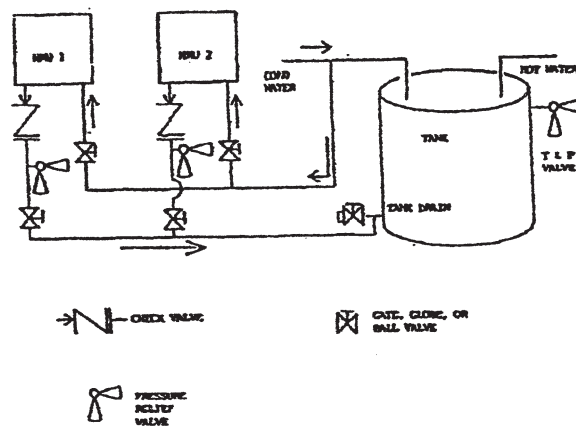

Figure W-103
**MULTIPLE HRU'S CONNECTED TO STORAGE TANK:** Can be accomplished by sizing the supply and return water lines for the combined water flow of all HRU's and connecting the HRU's in parallel to the supply/return lines. A check valve should be installed in the "water out" stub of each HRU, upstream of the connection to the return line, to prevent short circuiting of water through inactive HRU's. (Figure W-103)